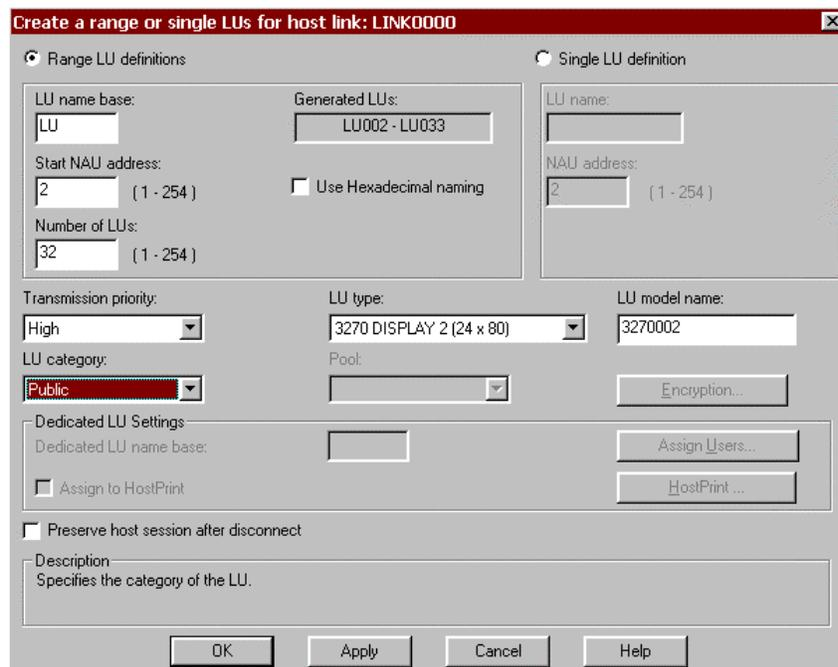

Figure 10-20. Create a range or single LUs for host link
9. Click **Yes** to define LUs. The *Create a range or single LUs for host link* screen will be displayed, allowing you to define LUs. There is nothing unique to the Netfinity ESCON Adapter when defining LUs. Please refer to either the online help or Novell's documentation for information on using this screen. The following example shows how to set up 32 public LUs named LU001-LU032 (Figure 10-20).